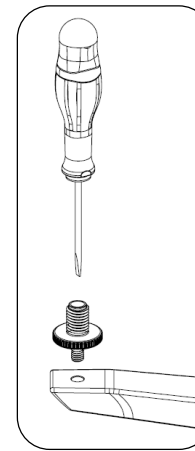

Fig. 3 – install glide assembly
5. Install surface mount anchors into table legs as shown in Fig. 3. Use a flathead screwdriver as shown to tighten glide assembly into table leg.